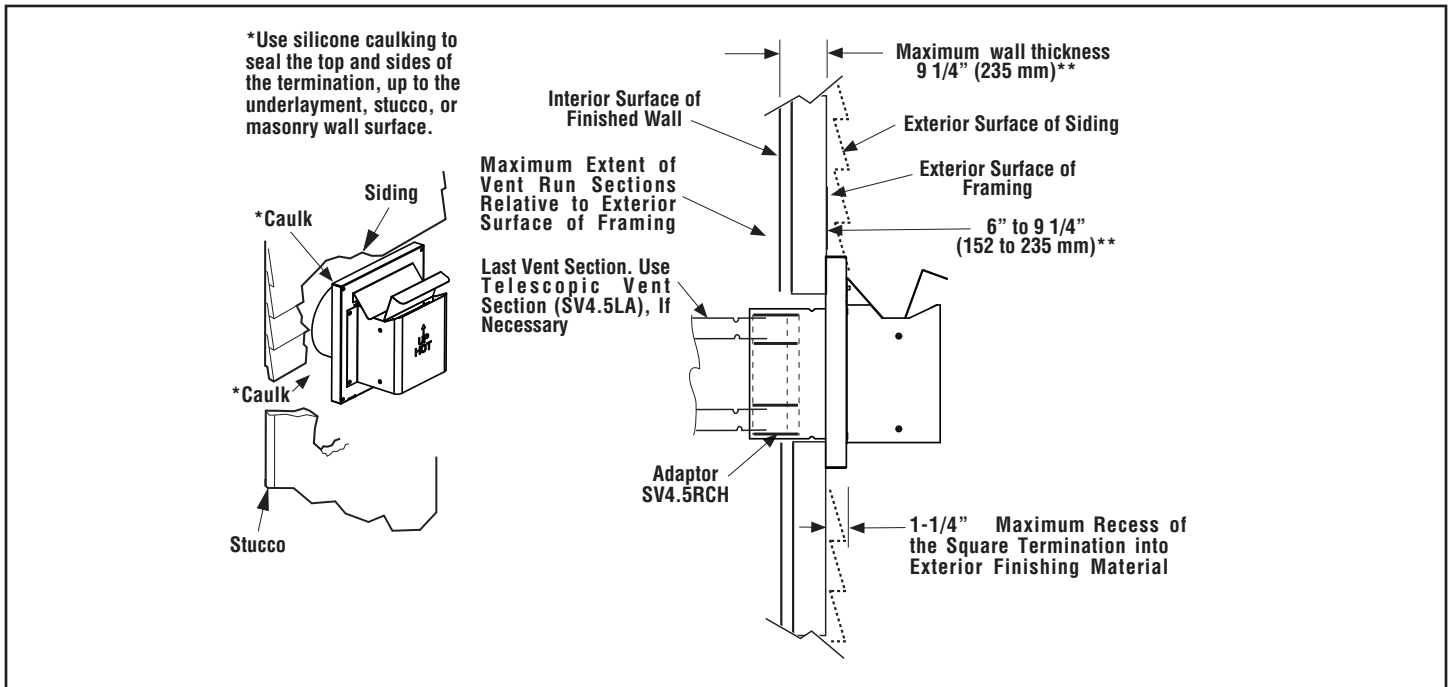

Figure 10 - Venting Connection and Exterior Wall Recessing of the Horizontal Compact Termination (SV4.5HTKCT)
13. **Install the termination (SV4.5HTKCT)—**From outside the exterior wall, slide the collars of the termination onto the adaptor (the outer over the outer and the inner inside the inner) until the termination seats against the exterior wall surface to which it will be attached. Orient the housing of the termination with the arrow pointed upwards. Secure the termination to the exterior wall. The horizontal termination must not be recessed into the exterior wall or siding by more than the 1 1/4" (32 mm) (Figure 10, page 16).